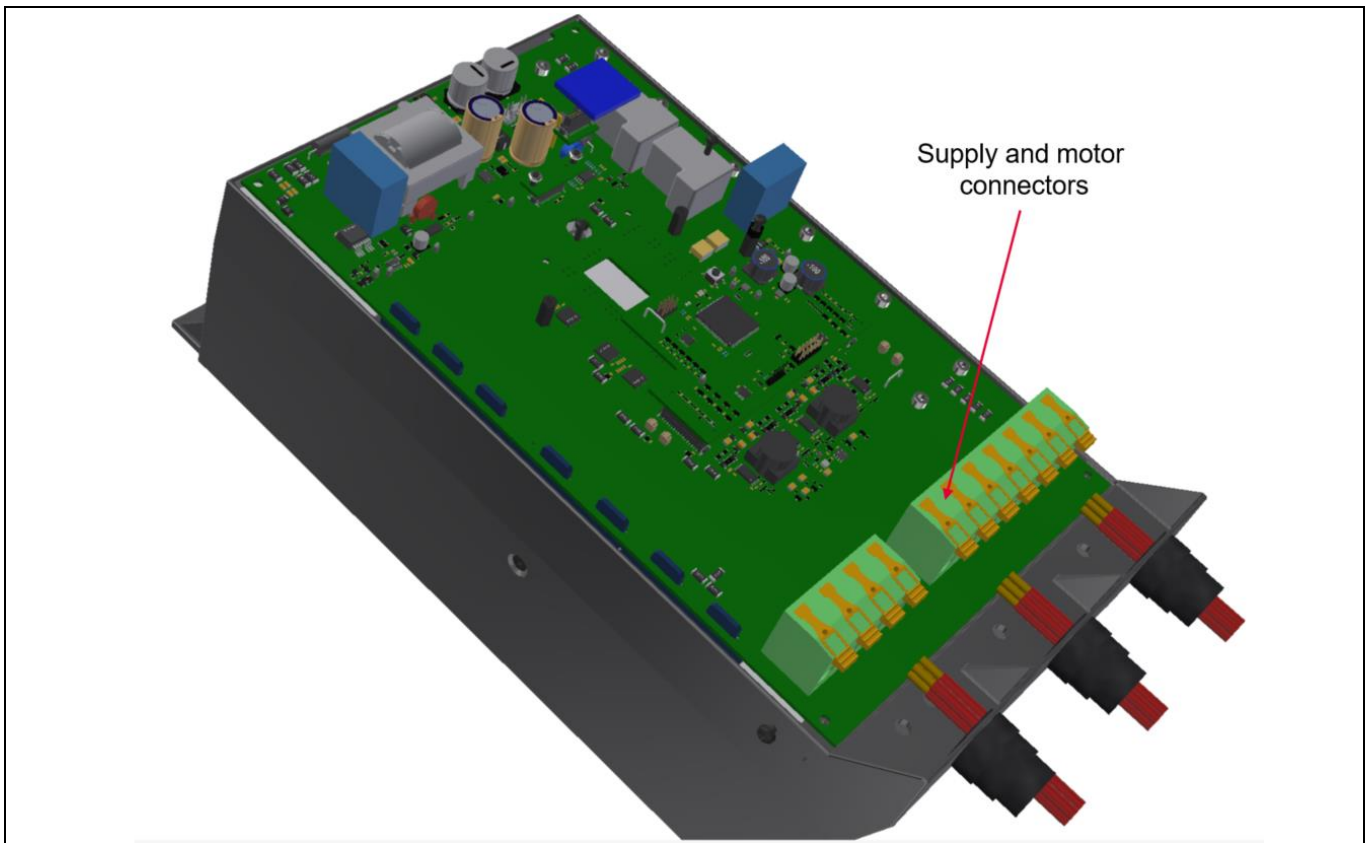

Figure 20 Inverter without front covers
3. If all front covers are removed, the power board PCB is visible, as shown in Figure 20.